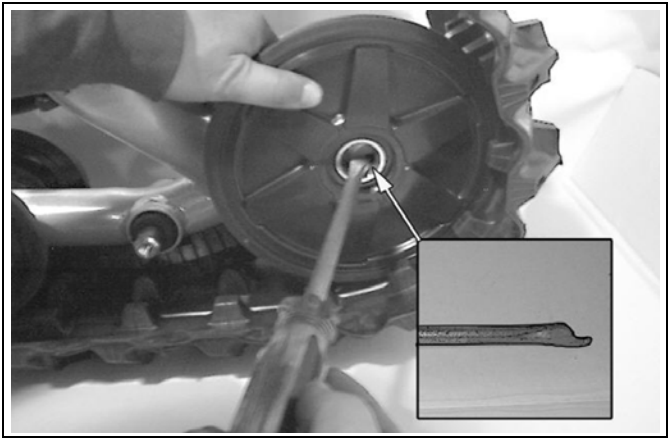

Figure 23
- If working on rear track systems, re-install the 133-mm wheels (refer to Figure 23).